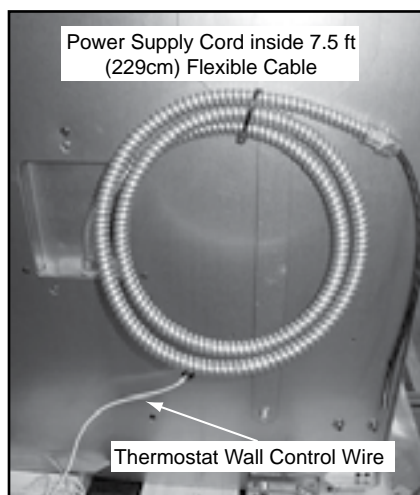

Figure 34.1 - Power Supply Cord and Wall Control Wire
2. The power supply cord is inside a 7-1/2 foot (229cm) long 3/8 inch (9.5mm) flexible conduit cable located and attached to the left side of the outer can. **Figure 34.1.** The cable comes with an insulated snap-in connection.
2. Route the 25 foot (762cm) long white wall control wire that is supplied in the component pack through the rubber grommet in the left side of the fireplace outer can. **Figure 34.1**